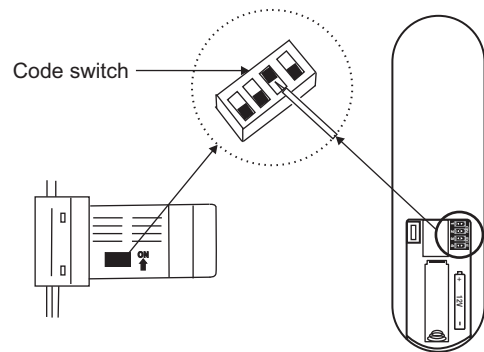

Figure 12
**NOTE:** This remote control unit is equipped with 16 code combinations to prevent possible interference from or to other remote units. The frequency switches on your receiver and transmitter have been preset at the factory. Please recheck to make sure the switches on transmitter and receiver are set to the same position, any combination of settings will operate the fan as long as the transmitter and receiver are set to the same position. (Figure 12)